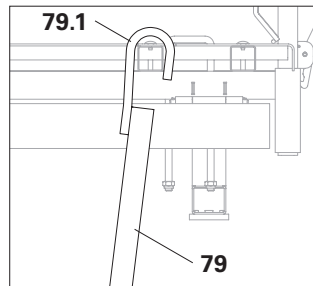

Fig. A13.09a
3. Slide the hook (**79.1**) of the Ladder 240-360 (**79**) over the crossbeam of the Conc.Platform Hatch MX 100x100 (**77**). (Fig. A13.09a)